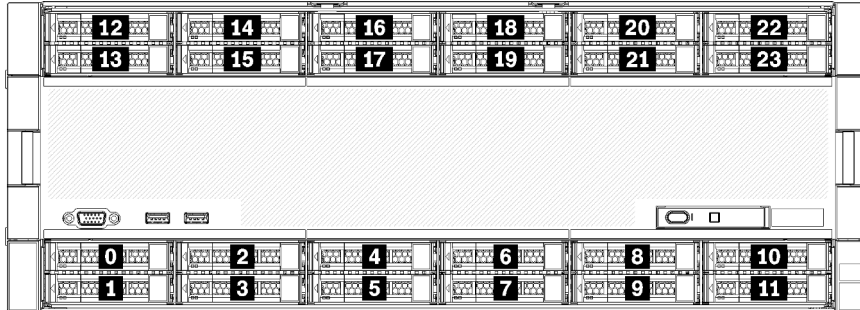

Figure 7. Drive bay locations
- Top two drives support SAS, SATA, or NVMe interface drives (Lenovo AnyBay). The server can support up to 12 NVMe drives, depending on the server configuration. The NVMe-capable drive bays are the even-numbered bays as shown in Figure 7 “Drive bay locations” on page 17.